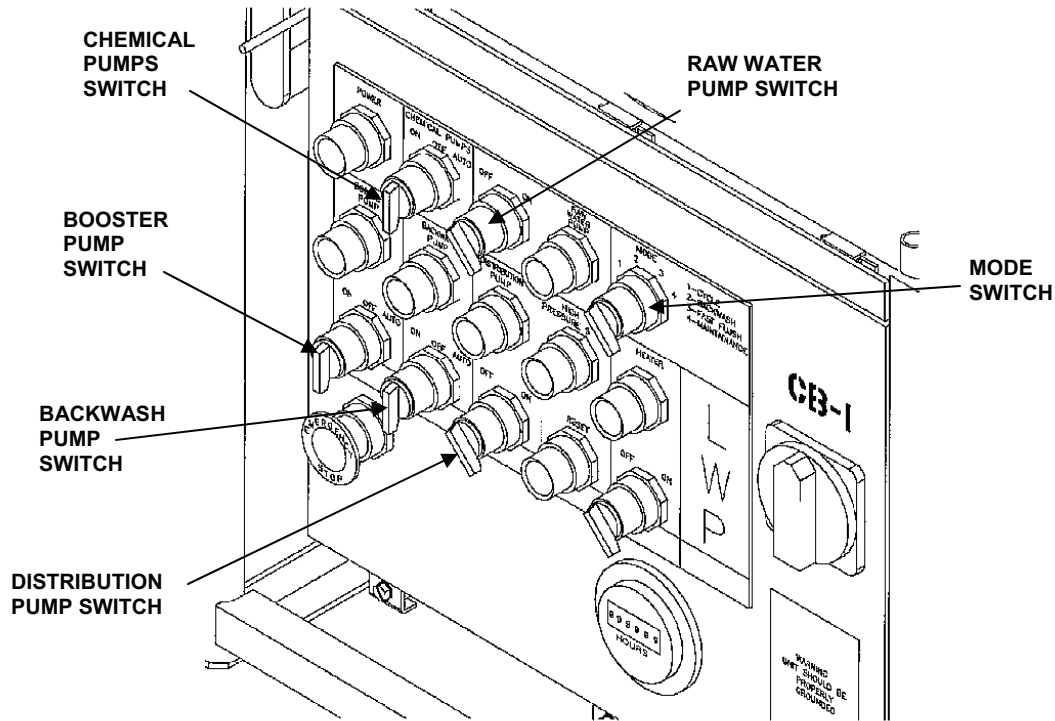

Figure 2. Control Module.
- Place the BOOSTER PUMP and BACKWASH PUMP selector switches on the control module in the OFF position. See Figure 2.
- Turn service MODE selector switch to position 2 (BACKWASH). See Figure 2.
- After the manual backwash, place the service MODE selector switch in position 3 (FAST FLUSH). See Figure 2.
3. If oil is required, remove the fill cap. Refer to Figure 2.
OIL LEVEL INSTRUCTION - continued**Figure 2. Plunger Pump Oil Fill Cap.**